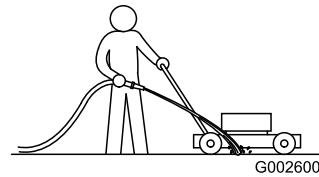

Figure 46
1. With the engine running on a flat paved surface, spray a stream of water in front of the right rear wheel (Figure 46).